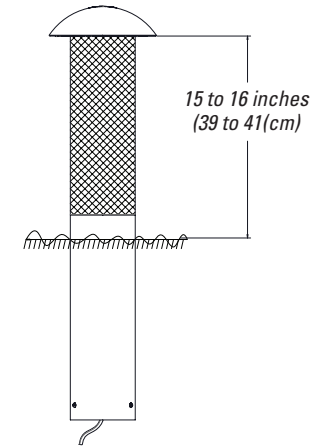

Figure 13
3. Insert the L42XC speaker into the hole. Adjust gravel level as needed to achieve the desired height of the speaker above ground level. The bottom of the light hood should be approximately 39-42cm (15.5 – 16.5 inches) above ground level as shown in Figure 13.